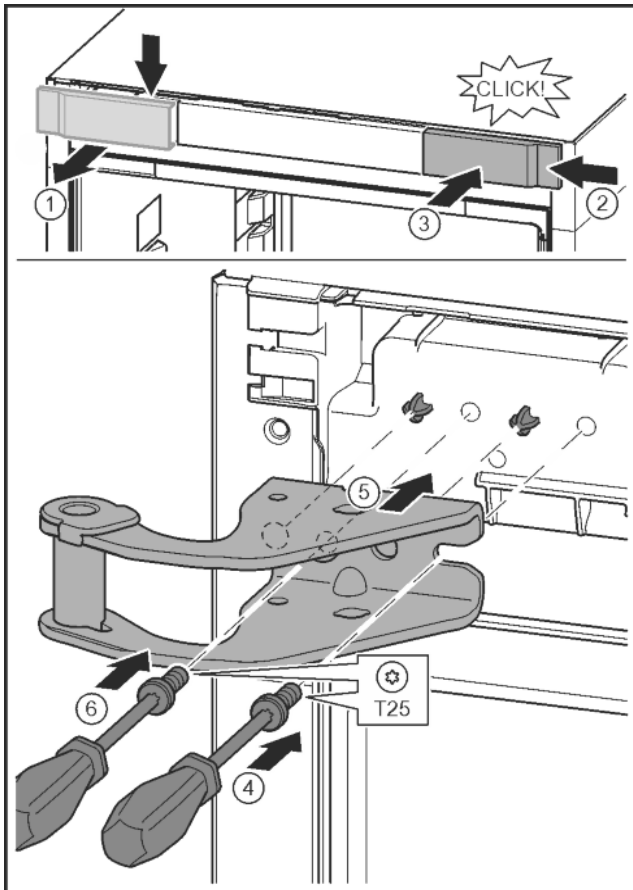

Fig. 11
- ▶ Release the cover and remove from the side. Fig. 11 (1)
- ▶ Rotate the cover 180° and clip onto the other side from the right. Fig. 11 (2)
- ▶ Click the cover into place. Fig. 11 (3)
- ▶ Position the screw with a T25 screwdriver. Fig. 11 (4)
- ▶ Position the upper bearing bracket. Fig. 11 (5)
- ▶ Tighten the screw. Fig. 11 (4)
- ▶ Insert the screw with a T25 screwdriver and tighten. Fig. 11 (6)